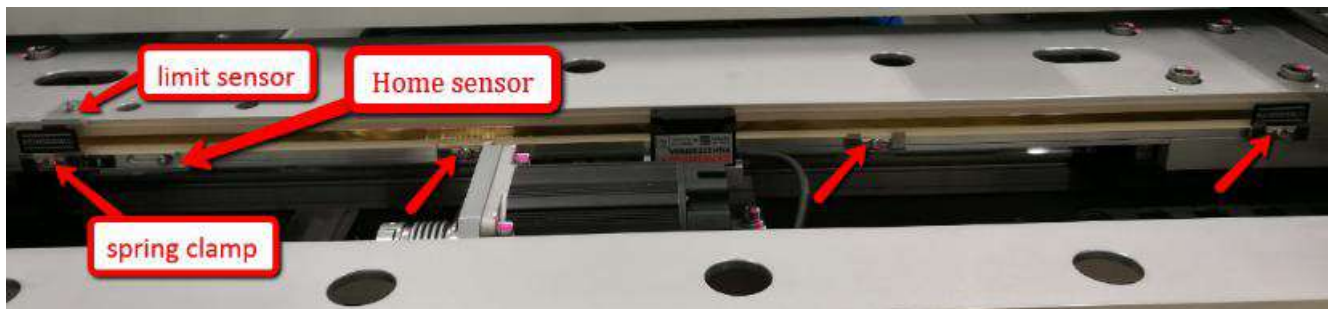

Figure 3 Glass scale
4. Remove spring clamps, home sensor and limit sensor as shown in Figure 3.